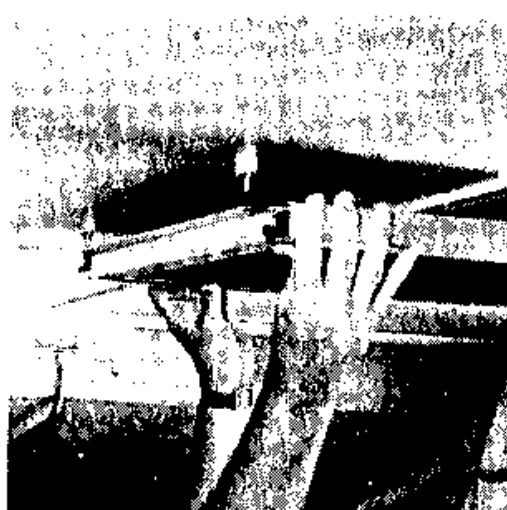

Fig. 6
10. Unlatch twist locks holding door to roof. Swing down the double hinged, self-storing screen door. Drop channel of lower edge of screen door over entrance door, guiding locating pins into door jamb extrusion. Fig. 6. If you cannot get door to align properly, check jacks to make sure they are adjusted correctly and check camper for levelness.
2. Swing screen door up to roof and latch the twist locks. Fig. 6